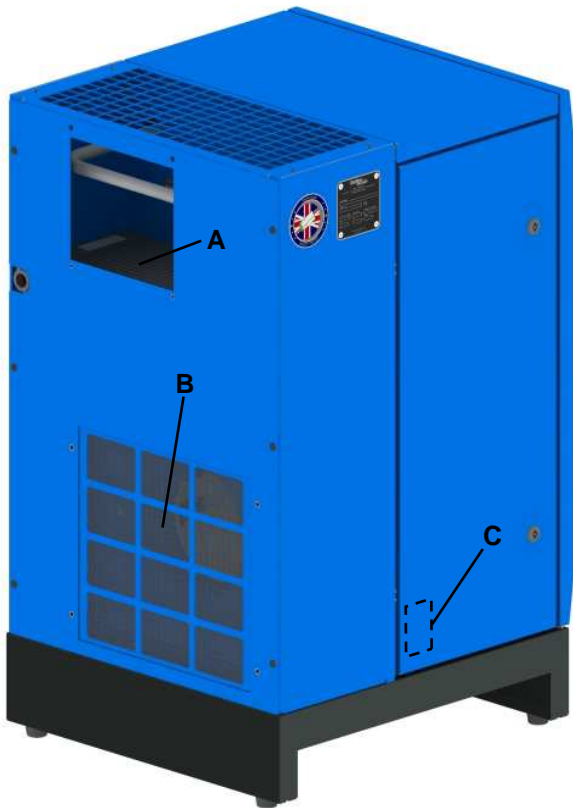

Fig 7.2 Intake and Cooler Matrix
7.9 Oil Cooler/Aftercooler (Fig.7.2)
7.10 Cabinet Air Filter (Fig 7.2)